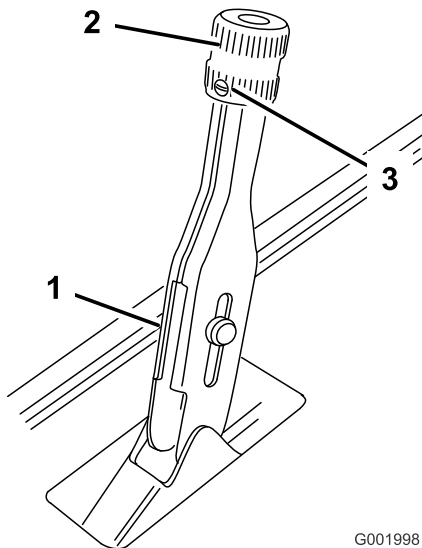

Figure 63
1. Loosen the set screw securing the knob to the parking brake lever (Figure 63).